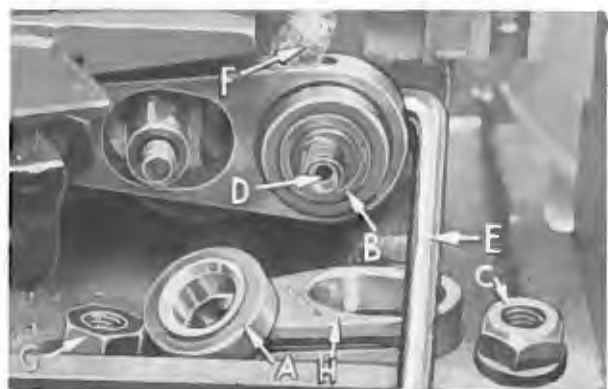

Fig. 17
If eccentrics are unusually tight fitting, in addition to removing nut (C, Fig. 17) from shaft (D) it may be helpful to remove nut (G) and feed driving connection (H). Then continue as originally suggested.